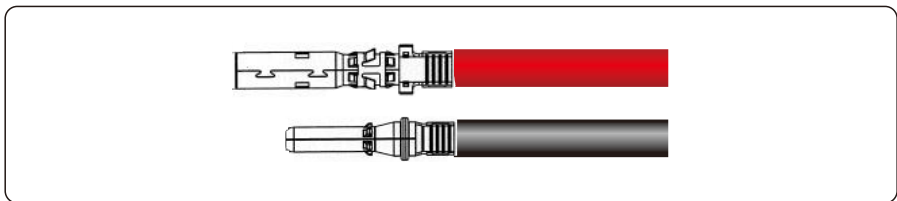

Figure 5.10 Crimping a metal connector
**Step 2** Insert the exposed areas of the positive and negative power cables into the metal terminals of the positive and negative connectors respectively and crimp them using a crimping tool, as shown in Figure 5.10.